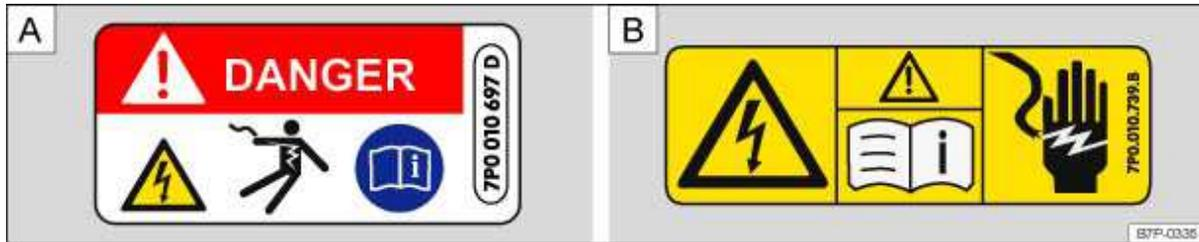

Fig. 257 Warning label on high-voltage hybrid components (A). Warning label on covers which are over high-voltage hybrid components (B).
- on each high-voltage component for example in the engine compartment or underneath the luggage compartment ⇒ fig. 257 A.